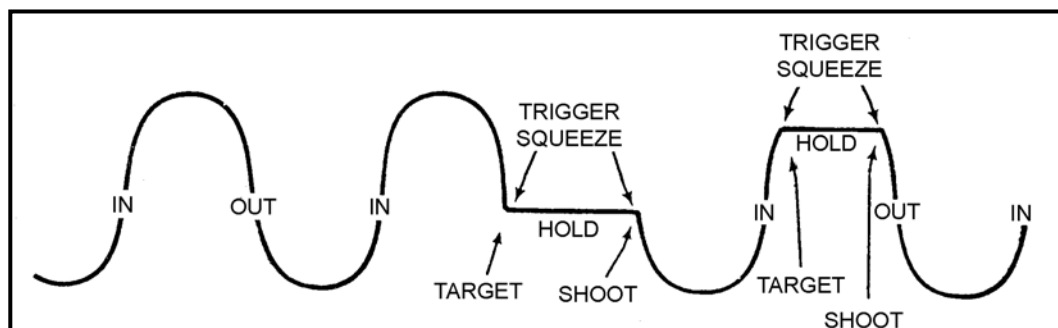

Figure 4-21. Breath control while engagement of short-exposure targets.
(2) The second breath control technique is employed during rapid fire (short-exposure targets) (Figure 4-21). Using this technique, the soldier stops his breath when he is about to squeeze the trigger.